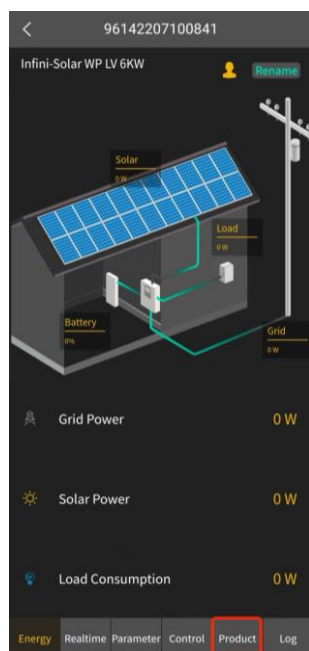

Figure 1
2. Click the "Product" button marked in red square in Figure 1 to enter the Product Screen, as shown in Figure 2.